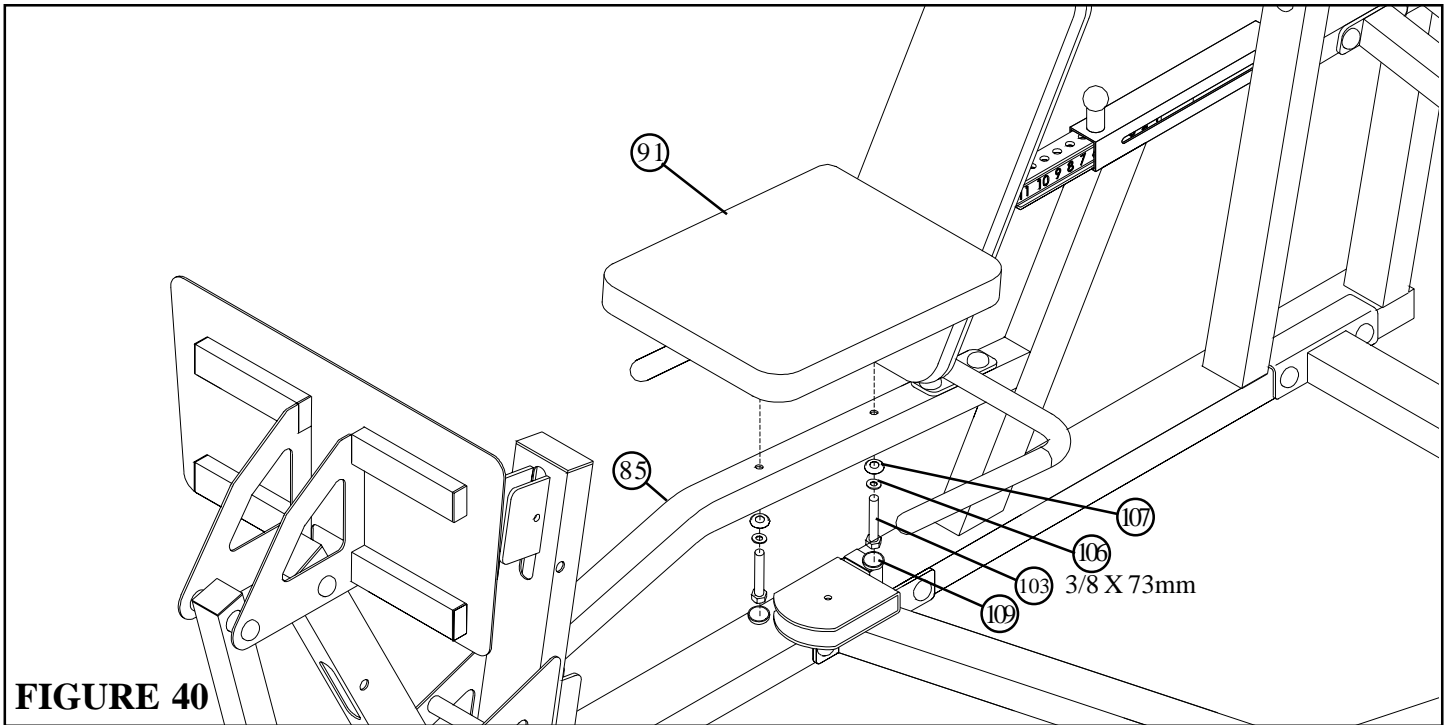

FIGURE 40
- **SECURELY** assemble the LEG PRESS SEAT PAD (91) to the LEG PRESS FRAME (85) using two RH CAPS (109), two 3/8 X 73mm BOLTS (103), two 3/8 SAE WASHERS (106) and two 3/8 RH WASHERS (107) as shown in FIGURE 40.